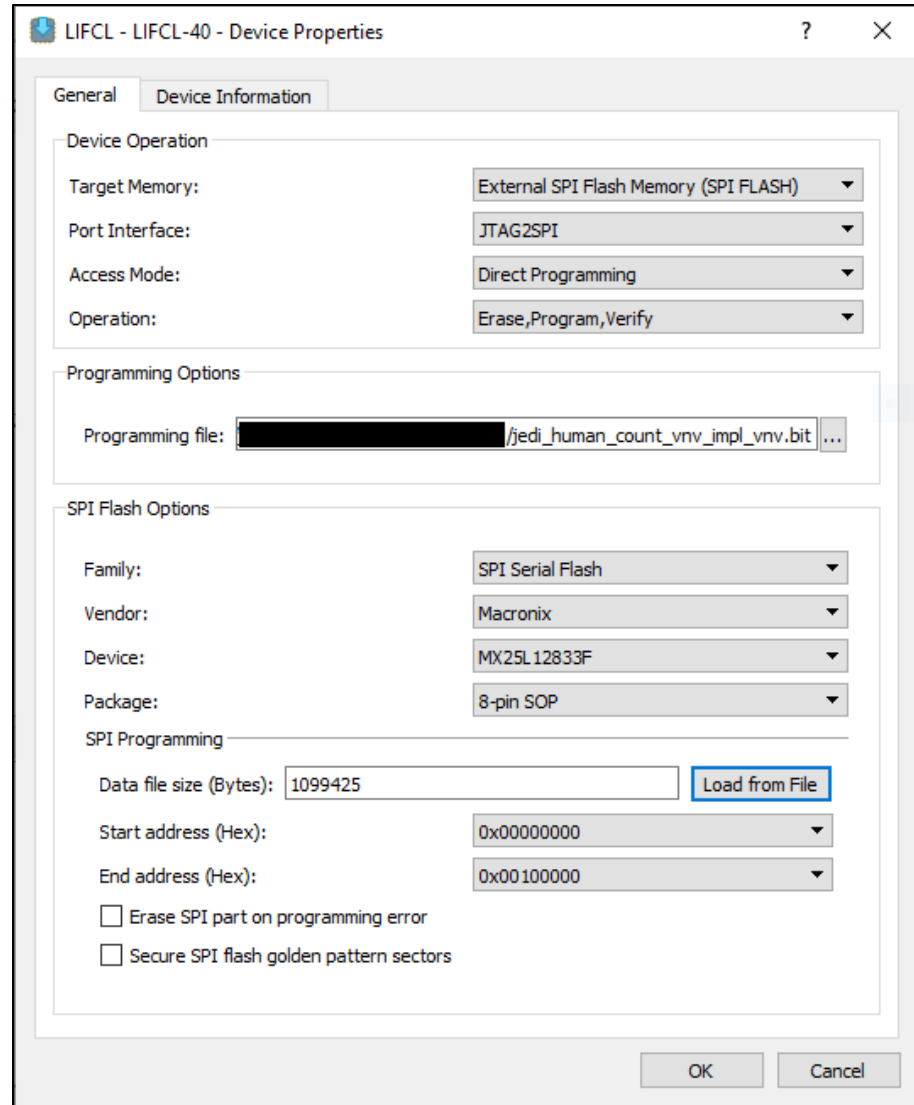

Figure 4.5. Radiant Programmer – Selecting Device Properties Options for CrossLink-NX Flashing
- c. For **SPI Flash Options**, make the selections as shown in Figure 4.5.